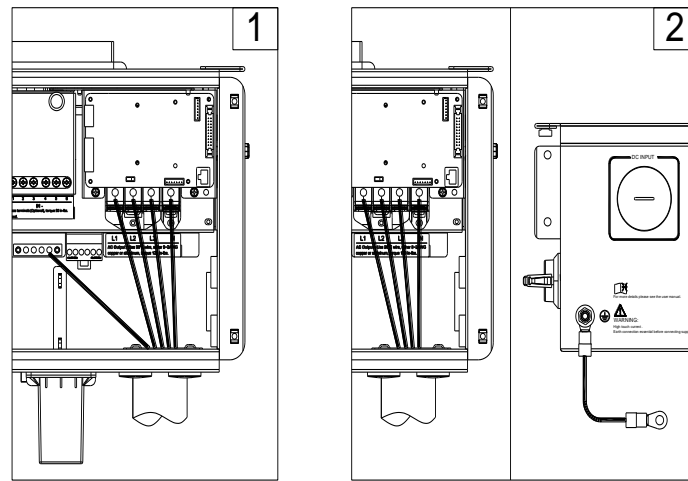

Figure 3-22 AC Output and Ground Cable Connection
The inverter provides one (1) grounding connection on the AC side and one (1) bonding location. These configurations are illustrated in Figure 3-22.